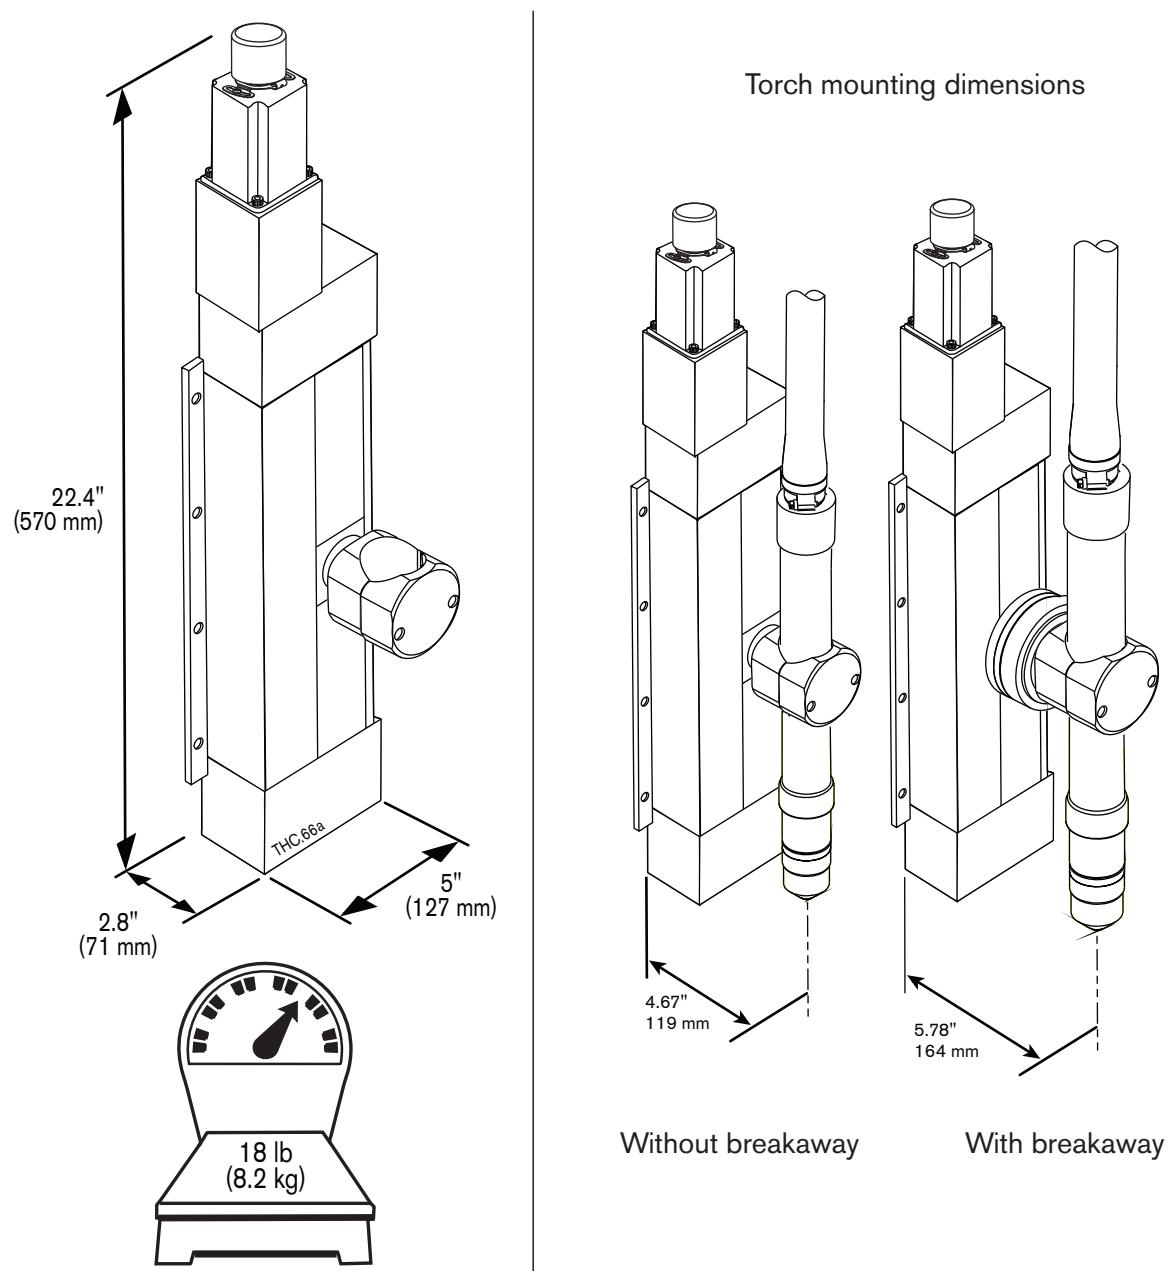
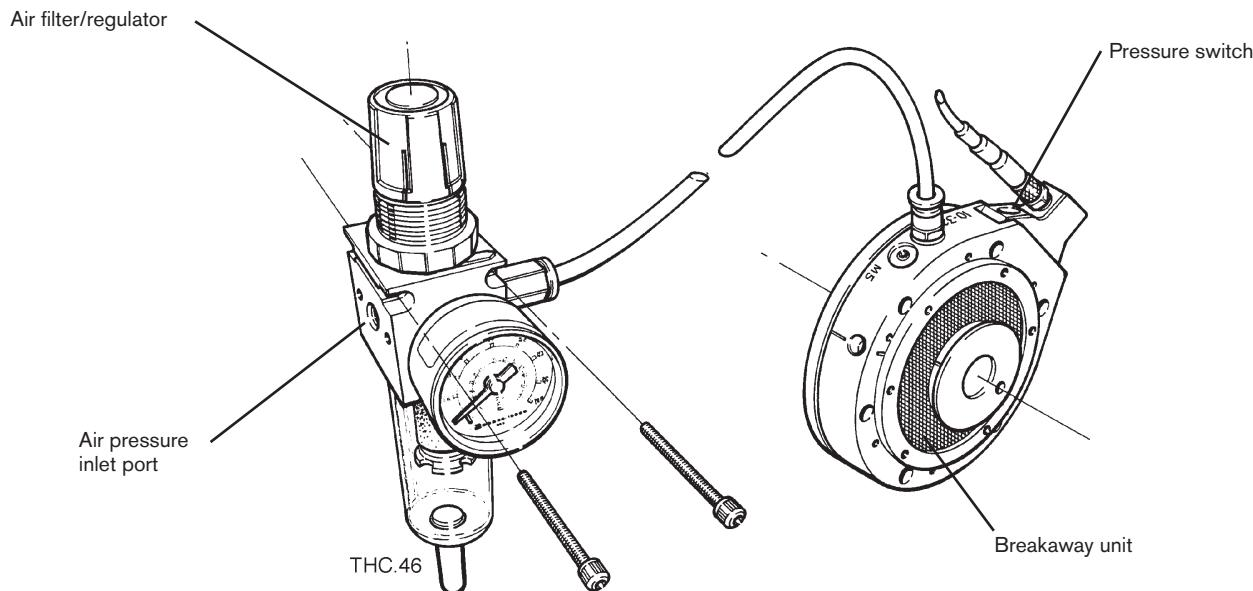

Figure 2-4 X-Y lifter assembly
Figure 2-6 X-Y lifter breakaway option
- **X-Y lifter assembly** (Figure 2-4) The torch lifter station, under control of the THC control module, positions a torch head vertically above the workpiece. Its maximum stroke is 8 inches (200 mm) between the home and lower limit switches. It is driven by a stepper motor attached to a leadscrew. An encoder is provided for stall IHS sensing, and to detect gross errors during normal operation. A lower limit switch detects maximum travel in the downward direction. A home switch is provided to detect when the lifter is in the uppermost position. A power-off brake is energized after power up, and allows controlled motion of the torch. It is powered off during "Maintenance Mode" to prevent the torch from being accidentally moved. An optional torch breakaway kit is also available.
- **Torch breakaway kit (optional)** (Figure 2-6) The torch breakaway (collision sensor) provides a level of protection for the torch, lifter and X-Y table. Air pressure locks the torch to the THC lifter assembly. The air pressure can be adjusted to change the force required to trip the breakaway. Upon side impact, the breakaway releases from the lock position and allows the torch to float. See Figure 2-4 for torch mounting dimensions with and without the breakaway.